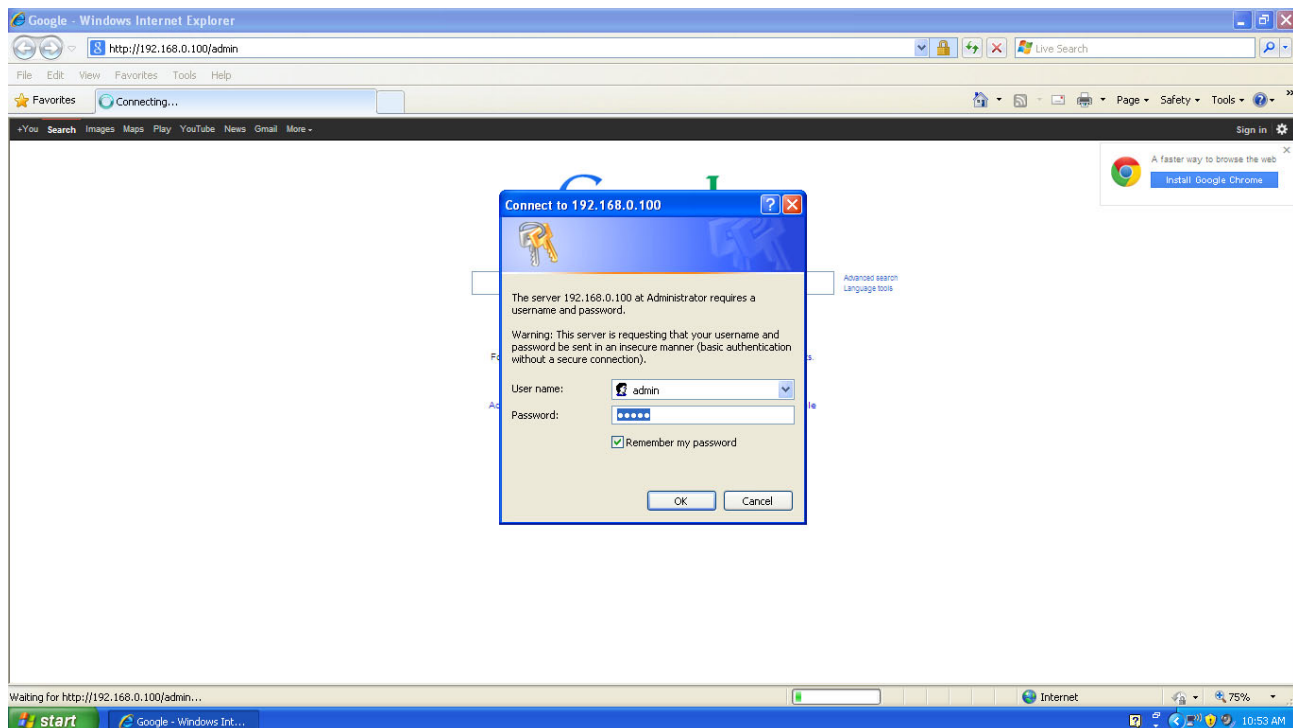

Fig 1-Login Screen
Step 2 – Using the IP camera's web interface, set the IP address of the replacement camera to the IP address of the camera it will be replacing. To access the camera's web interface a small system needs to be set up with a laptop and the replacement camera connected to a network switch with Cat5 cable. The camera can be powered with Power over Ethernet (PoE) using a PoE switch or with 12 or 24 VDC on the rear of the camera. Once a laptop, the camera, and switch are connected and powered, the user can access the web interface with an internet browser such as Internet Explorer or Firefox by typing <http://192.168.0.100/admin> in the address bar. You will be prompted for a user name (admin) and password (axonx). See Fig 1